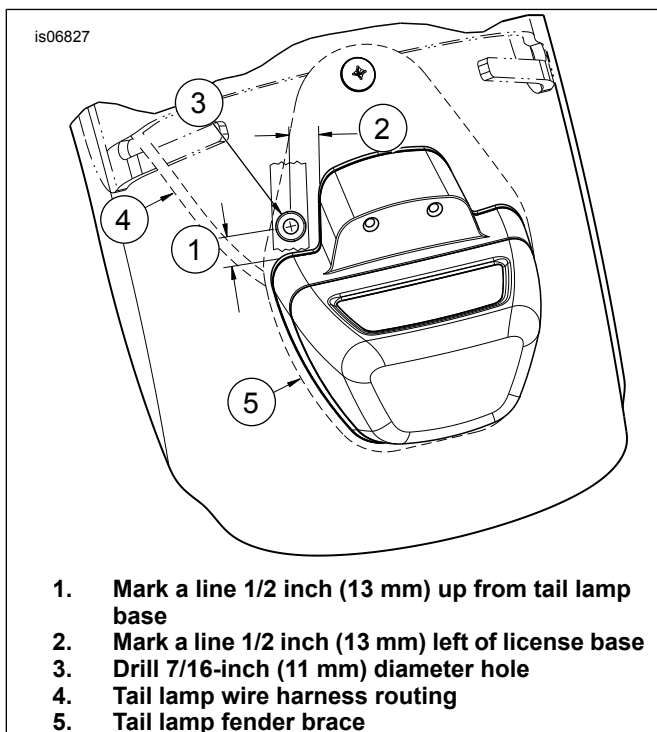

Figure 2. Wire Hole Location
3. See Figure 2. Drill a hole for the turn signal wires in the rear fender as follows:
- b. Measure up approximately 13 mm (1/2 in) from the tail lamp section of the base and mark a line (1) on the tape. Mark a second line (2) approximately 13 mm (1/2 in) to the left of the license plate section of the tail lamp base. Where the lines cross, mark the hole position with a center punch.
- c. Place a wooden block or similar protection between the rear tire and the underside of the fender at the drilling location. Make sure the tail lamp wire harness is below and clear of the hole location. Drill a 1/8 in (3 mm) pilot hole through the tape and fender, followed by a 7/16 in (11 mm) diameter hole (3).